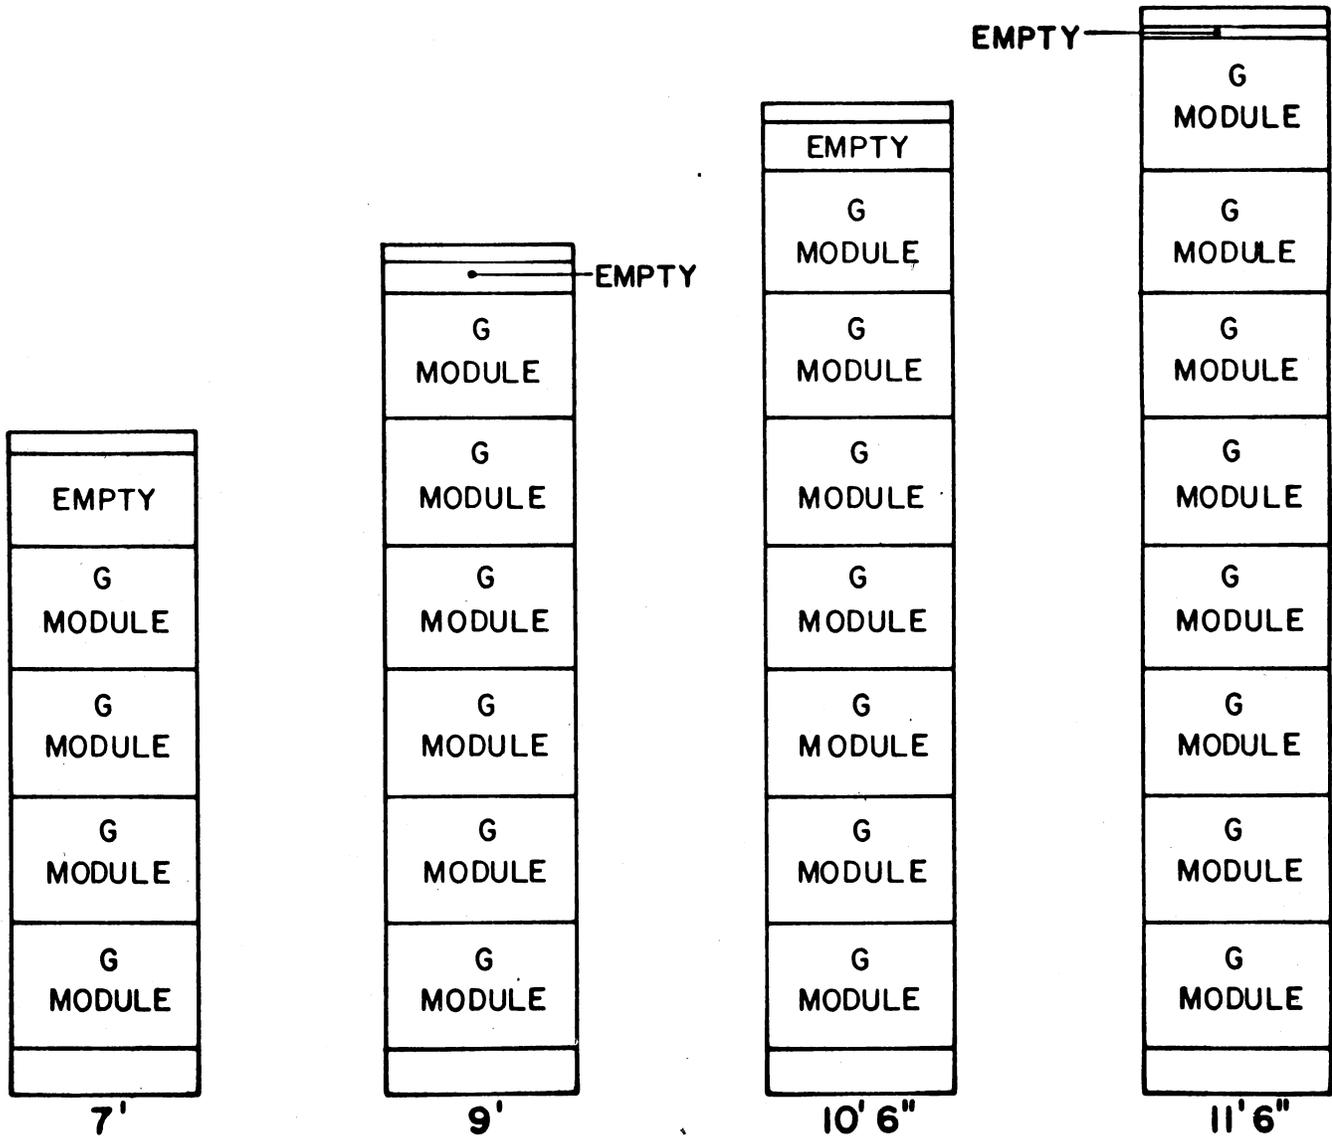

Fig. 1 — G-Signaling Standalone Bay Configurations
1.04 The G standalone bays use 23-inch unequal flange duct type frameworks in four standard heights. The backplanes and a G module for miscellaneous mounting are included as list numbers on the bay J-codes. Fig. 1 illustrates the four heights of G standalone bays and their maximum loading with G modules.